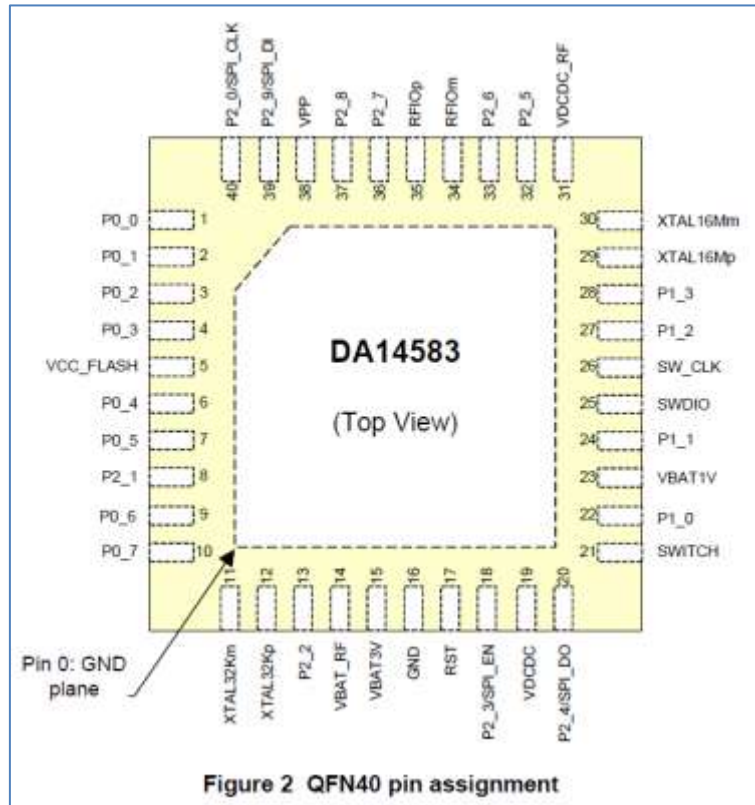

Figure 9: QFN40 pin assignment from datasheet
- Select the workspace folder for SmartSnippets. The dialog is shown in Figure 9. It is suggested to choose the root directory of the SmartSnippets DA1468x SDK. If this is not done correctly, then the message “you have not selected the latest SDK” will be shown. The correct message should be: “You have not yet selected a SDK. Click the Browse button above and select the SDK location”.
In Figure 9 the pinout of the DA14583 is shown. New, compared to the DA14580/581, are the connections to the internal SPI flash memory.